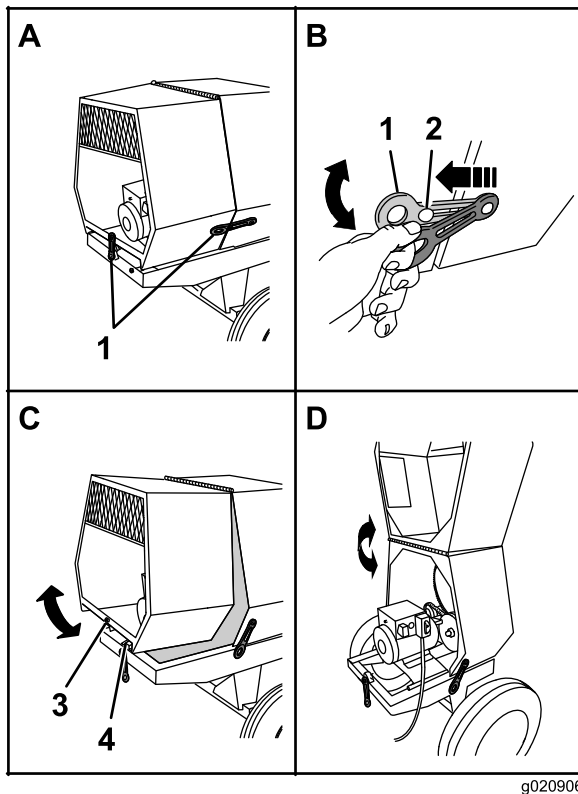

Figure 24
1. At the side of the machine where the front cowl and rear cowl meet, grasp the latch and pull it off from the latch anchor on the rear cowl (Figure 24).
3. At the back of the machine where the rear cowl meets the frame of the machine, grasp the latch and pull it off from the latch anchor on the cowl (Figure 24).
4. Rotate the rear cowl up and forward until it is fully positioned on top of the front cowl (Figure 24).
1. Rotate the rear cowl rearward and down until the receiver at the bottom center of the cowl is aligned with the V-fitting and flush on the frame of the machine (Figure 24).
4. Repeat step 3 at the opposite side of the machine (Figure 24).